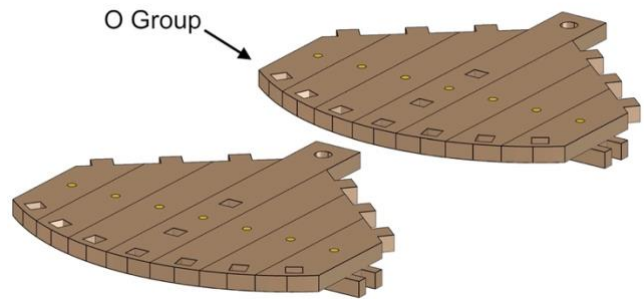

Fig. 74
- Fig. 74 shows the completed process (make two parts).